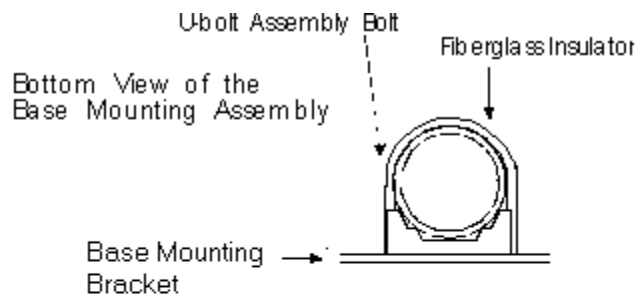

Figure 5
- [ ] 17. Secure the mounting bracket to the fiberglass insulator as shown in Figure 5. Make sure the antenna mast does not contact the U-bolts. The next four steps may be skipped if the antenna uses the MFJ-1904 Antenna Base.
- [ ] 1. The U-bolts should be attached to the base through the holes as indicated in Figure 5.